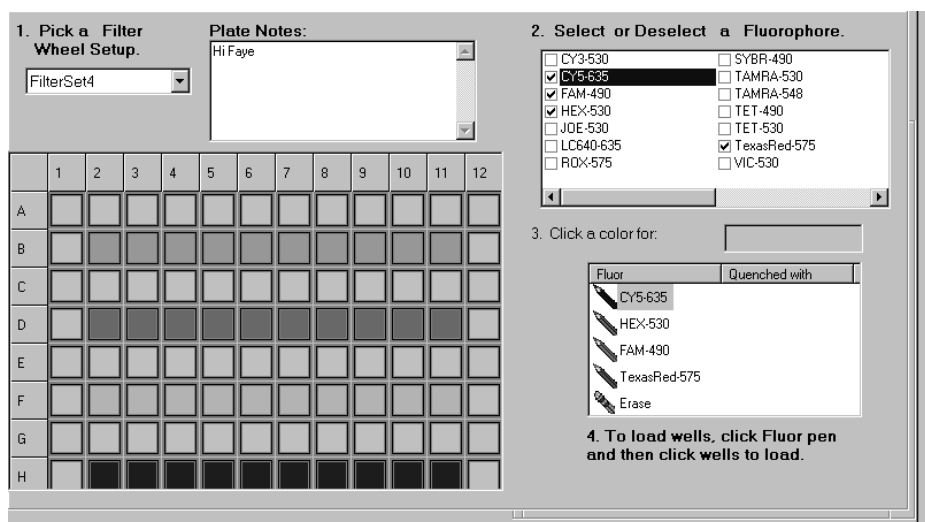

Fig. 2.8.
- Create a plate setup file that shows the location of the ten filled wells for each fluorophore being calibrated. The plate setup below indicates that the fluorescein pure dye calibration solution is in wells B2-B11, the Texas Red pure dye calibration solution is in wells D2-D11, the HEX pure dye calibration solution is in wells F2-11, and the Cy5 pure dye calibration solution is in well H2-11. (Figure 2.8).